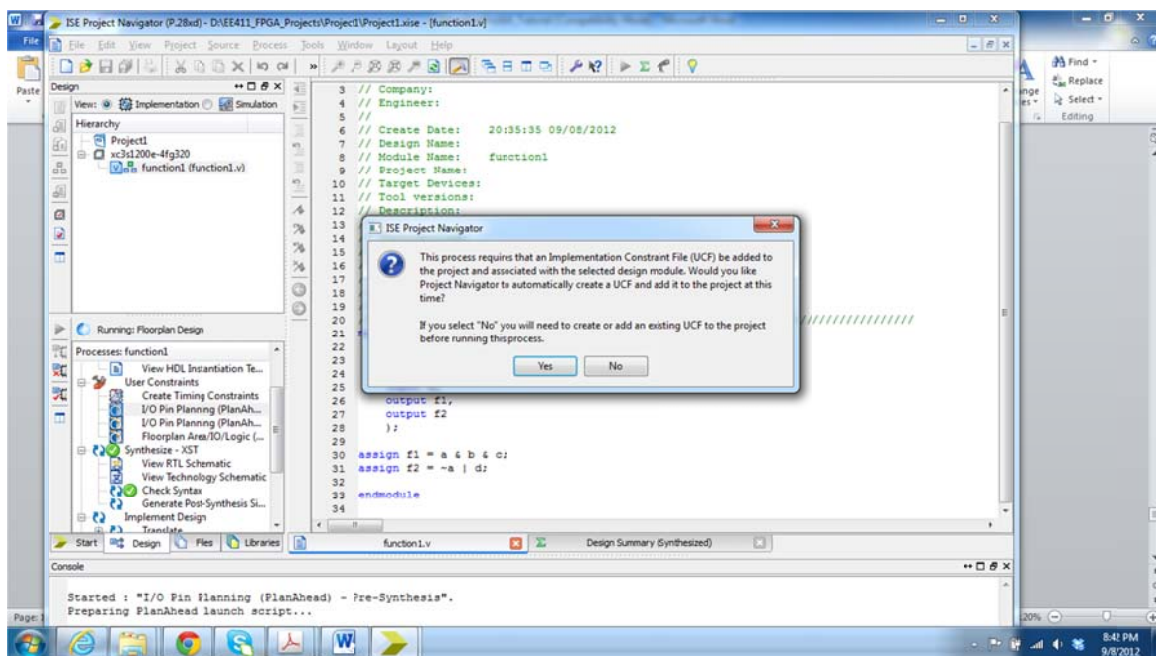

Figure 8B
9. Now we need to assign pins to the input and output ports of the module. This is done using *the I/O Pin Planning* tool under the *User Constraints*. Once you double click on *the I/O Pin planning*, the tool will ask you for a UCF file. Click ok on the message below shown in Figure 8B.